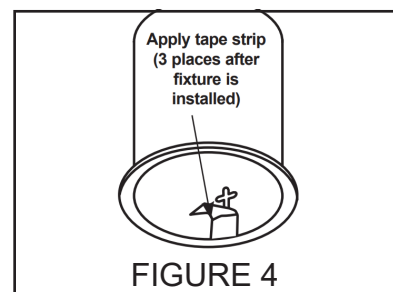

FIGURE 4
Step 4. For some models, apply tape strips over each of the retention clips and slots. Cover completely with the tape strips. Use the supplied strips, do not substitute with duct tape (Fig. 4).